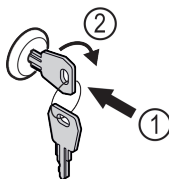

Fig. 200
- ▶ Insert the key. Fig. 200 (1)
- ▶ Turn the key clockwise by 90°. Fig. 200 (2)